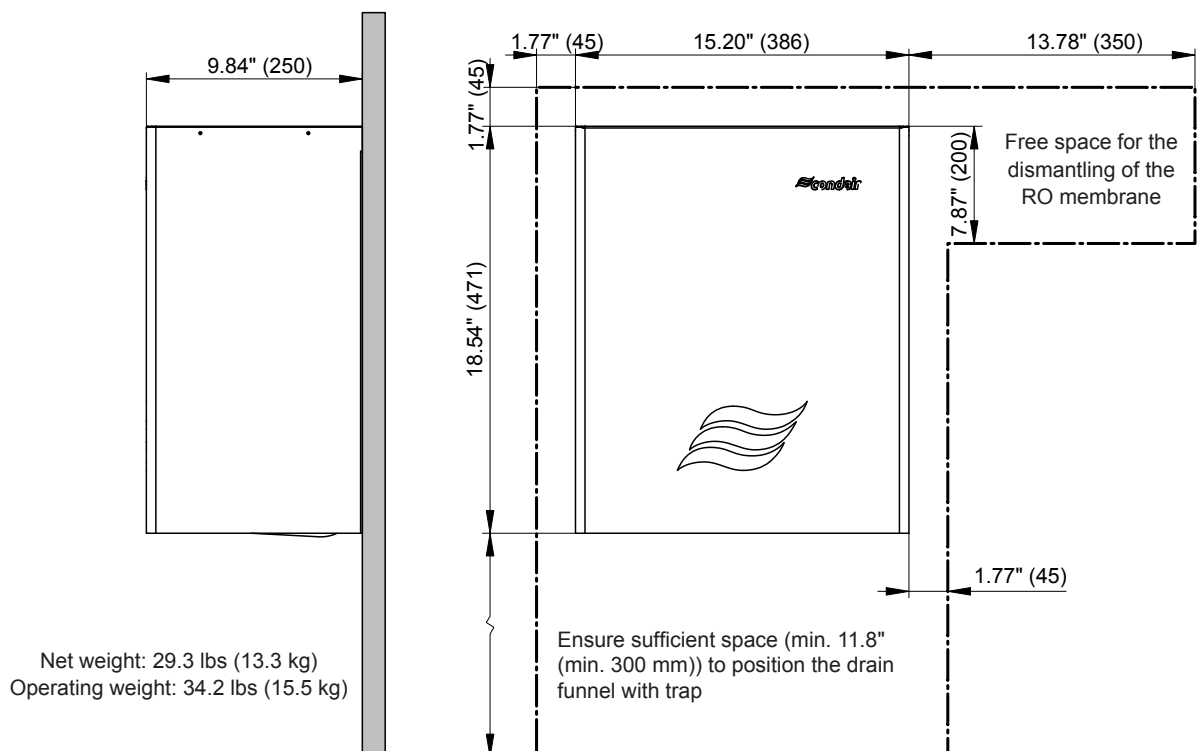
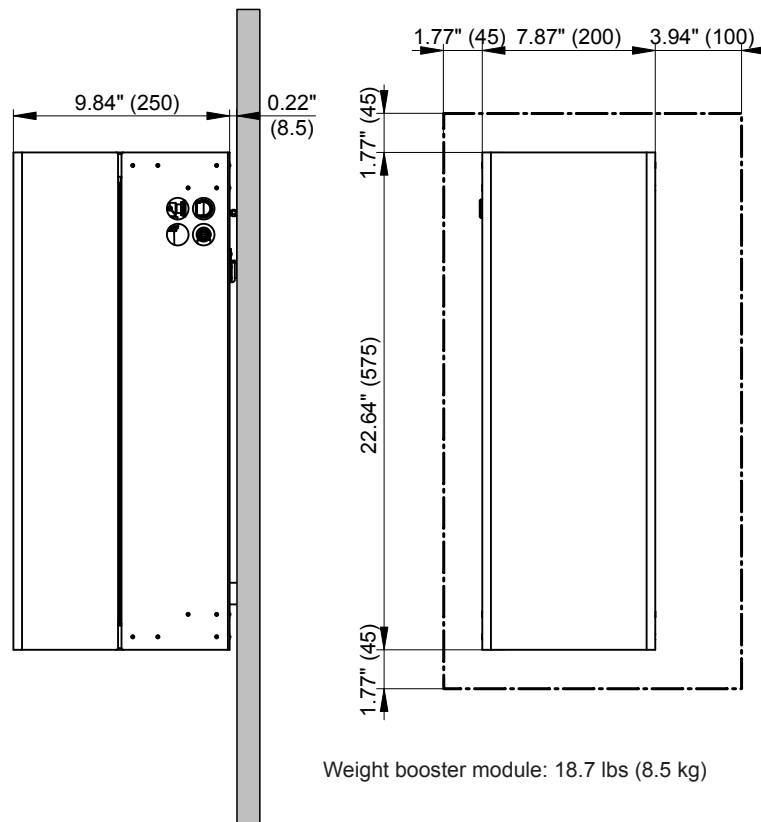
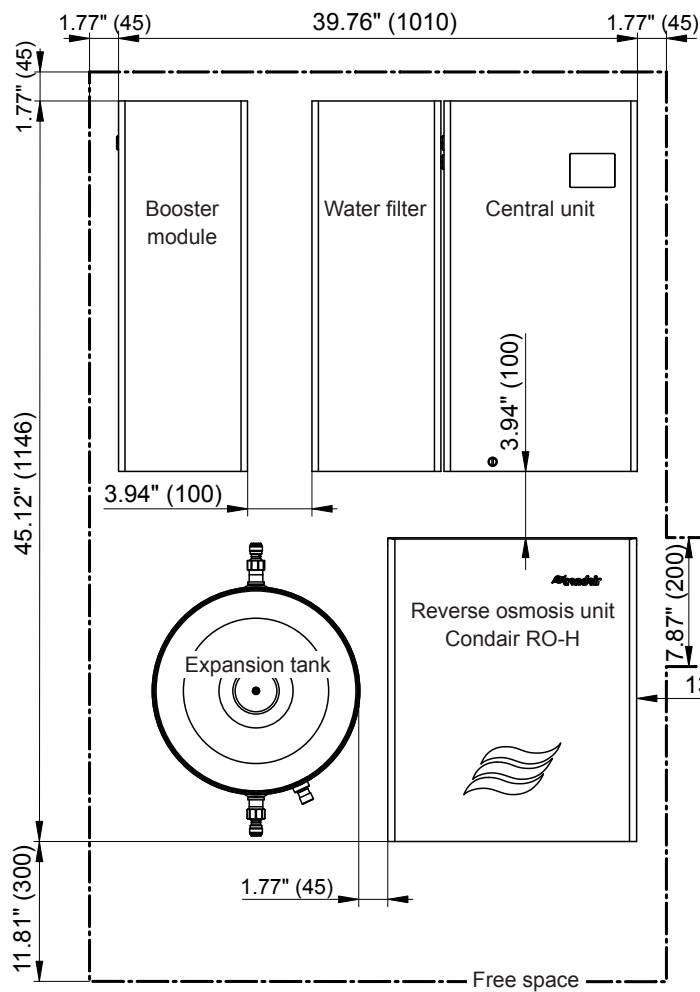

Fig. 7: Dimensions RO-H (dimensions in inch (mm))
Fig. 9: Dimensions booster module (dimensions in inch (mm))
Fig. 12: Placement example 3 (dimensions in inch (mm))
- There must be a sufficiently large free wall space in the room for the installation of the RO-H reverse osmosis unit, the expansion tank and the booster module (see Fig. 7 to Fig. 12).
Important: The wall on which the components of the reverse osmosis system are mounted must have sufficient load-bearing capacity (see weight information in Fig. 7 to Fig. 9) and be suitable for the attachment.